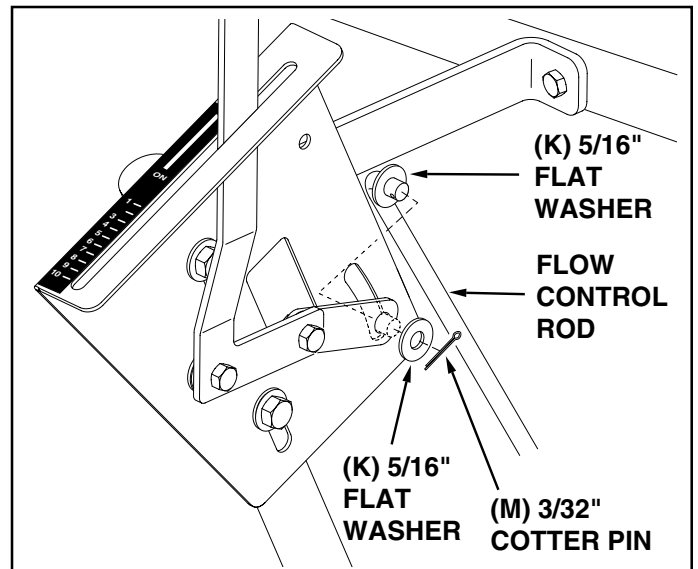

FIGURE 10
22. Place a 5/16" flat washer (K) onto the other end of the flow control rod. Insert the end of the rod through the curved slot in the flow control mounting bracket and through the hole in the flow control link. Secure with a 5/16" flat washer (K) and a 3/32" x 3/4" cotter pin (M). See figure 10.